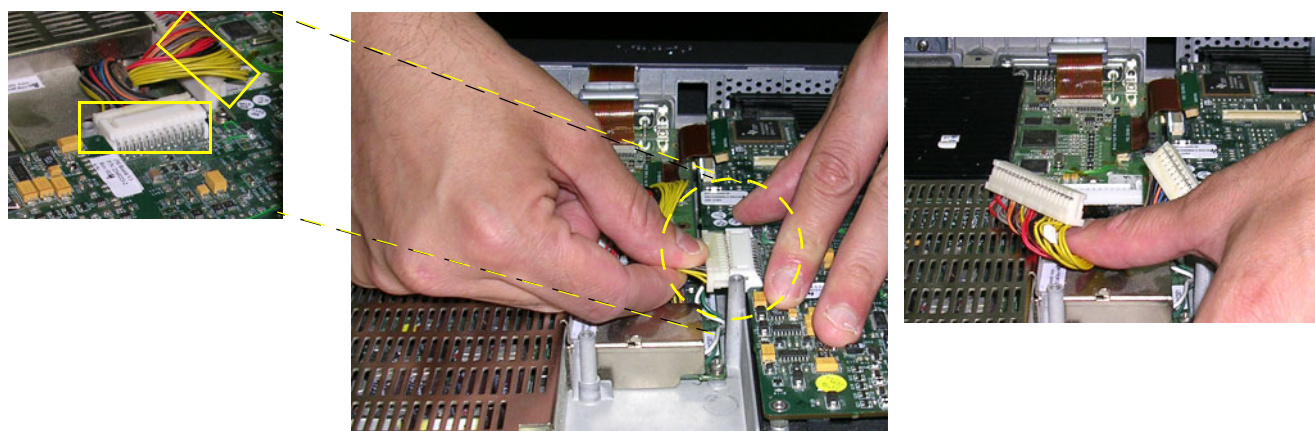

Figure 8-62 Disconnecting the DC Power Supply Cables
- 3) Reconnect each of the two Power Supply cables to the DC Power Supply (HVPS-to-BEP and HVPS-to-RFI), as shown in Figure 8-62 on page 8-53.